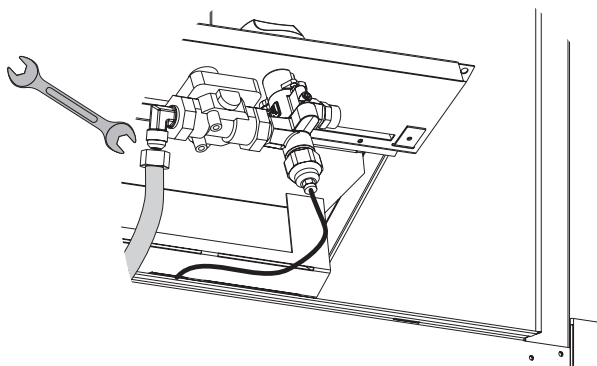

Figure 8
11. Use the appropriate wrench to disconnect the gas flex line from the gas valve. **See Figure 8.**